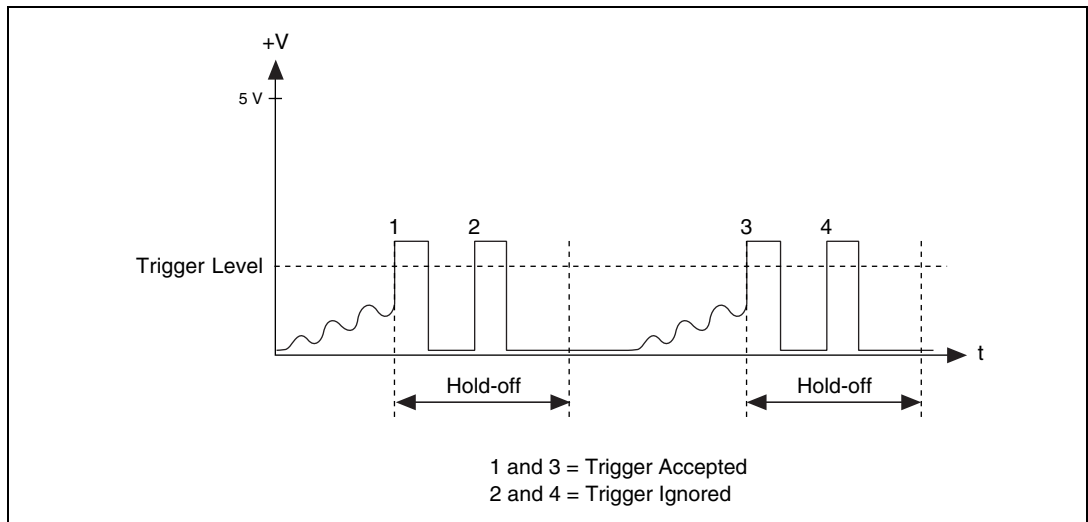

Figure B-8. Difficult Pulse Train Signal
- General signal shape—Some signals are easy to capture by ordinary triggering methods. A few iterations on the trigger level finally render a steady display. This method works for sinusoidal, triangular, square, and saw tooth waves. Some of the more elusive waveforms, such as irregular pulse trains, runt pulses, and transients, may be more difficult to capture. Figure B-8 shows an example of a difficult pulse-train trigger.
Ideally, the trigger event should occur at condition one, but sometimes the instrument may trigger on condition two because the signal crosses the trigger level. You can solve this problem without using complicated signal processing techniques by using *trigger hold-off*, which lets you specify a time from the trigger event to ignore additional triggers that fall within that time. With an appropriate hold-off value, the waveform in Figure B-8 can be properly captured by discarding conditions two and four.